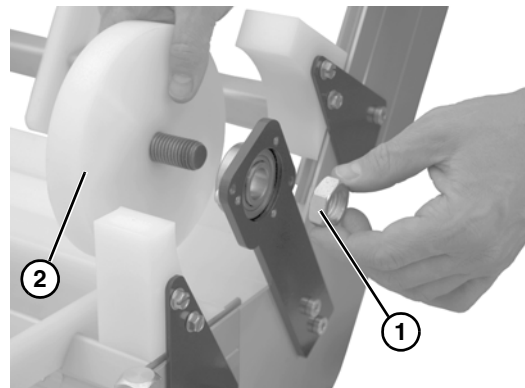

Figure 74
4. Remove the hex jam nut (**Figure 74, item 1**) and the hold down roller (**Figure 74, item 2**). Repeat on opposite side.